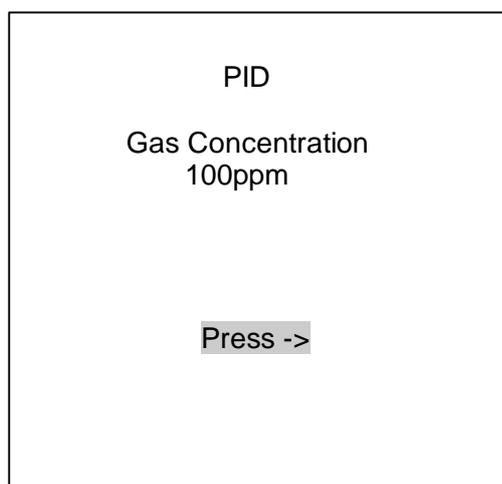

Figure 34: Calibration Menu after resetting
- When the resetting interval is finished, menu in Figure 34 is displayed.